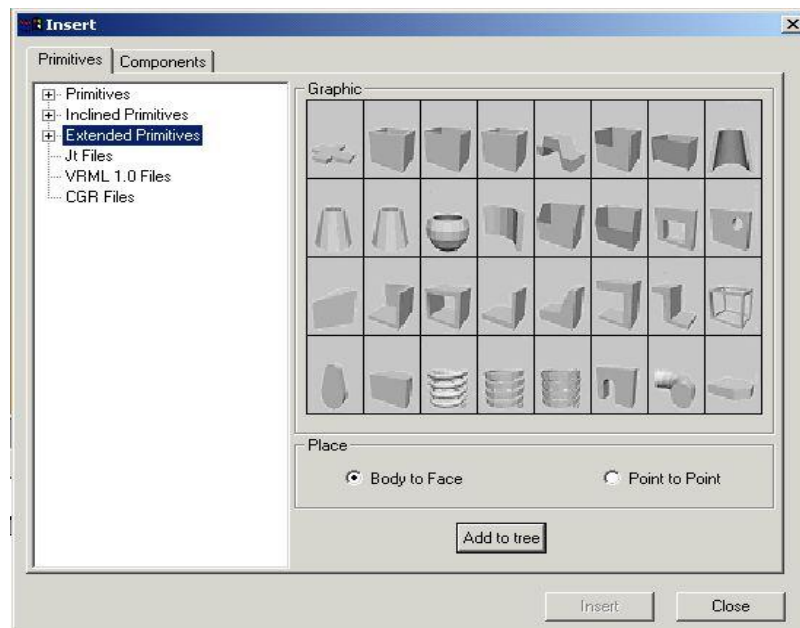

Figure 56: Insert Dialog
- 1) The procedure for inserting a primitive into a graphic is the same for all primitive types. Primitive types are **Primitives**, **Inclined Primitives**, and **Extended Primitives**, which are available in the corresponding directory. Please refer to the Figure 56.
- 1) Click **Components** tab in the dialog. *Please refer to the Figure 56.* The dialog that opens provide you with the search functions for the system items.